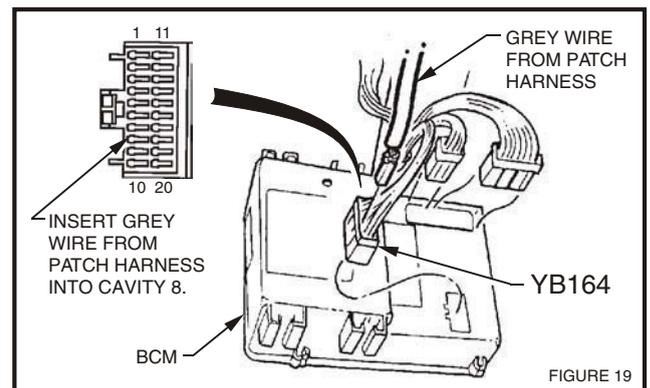

FIGURE 19
33. Insert grey wire into BCM connector YB164 terminal cavity 8 (circuit 83), refer fig. 19.